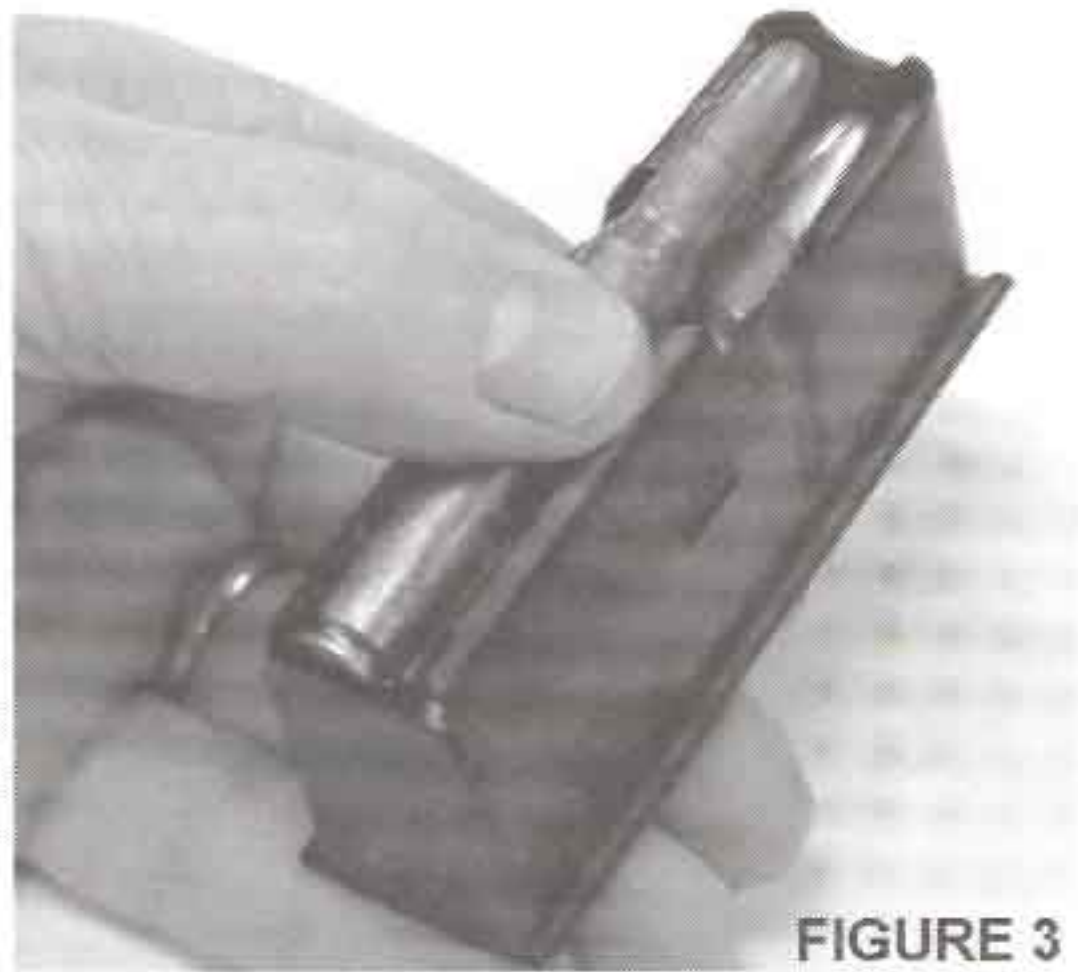

FIGURE 3
6. As shown in FIGURE 3, load the correct caliber cartridges (see Section 7) into the removable magazine by pressing downward and to the rear.